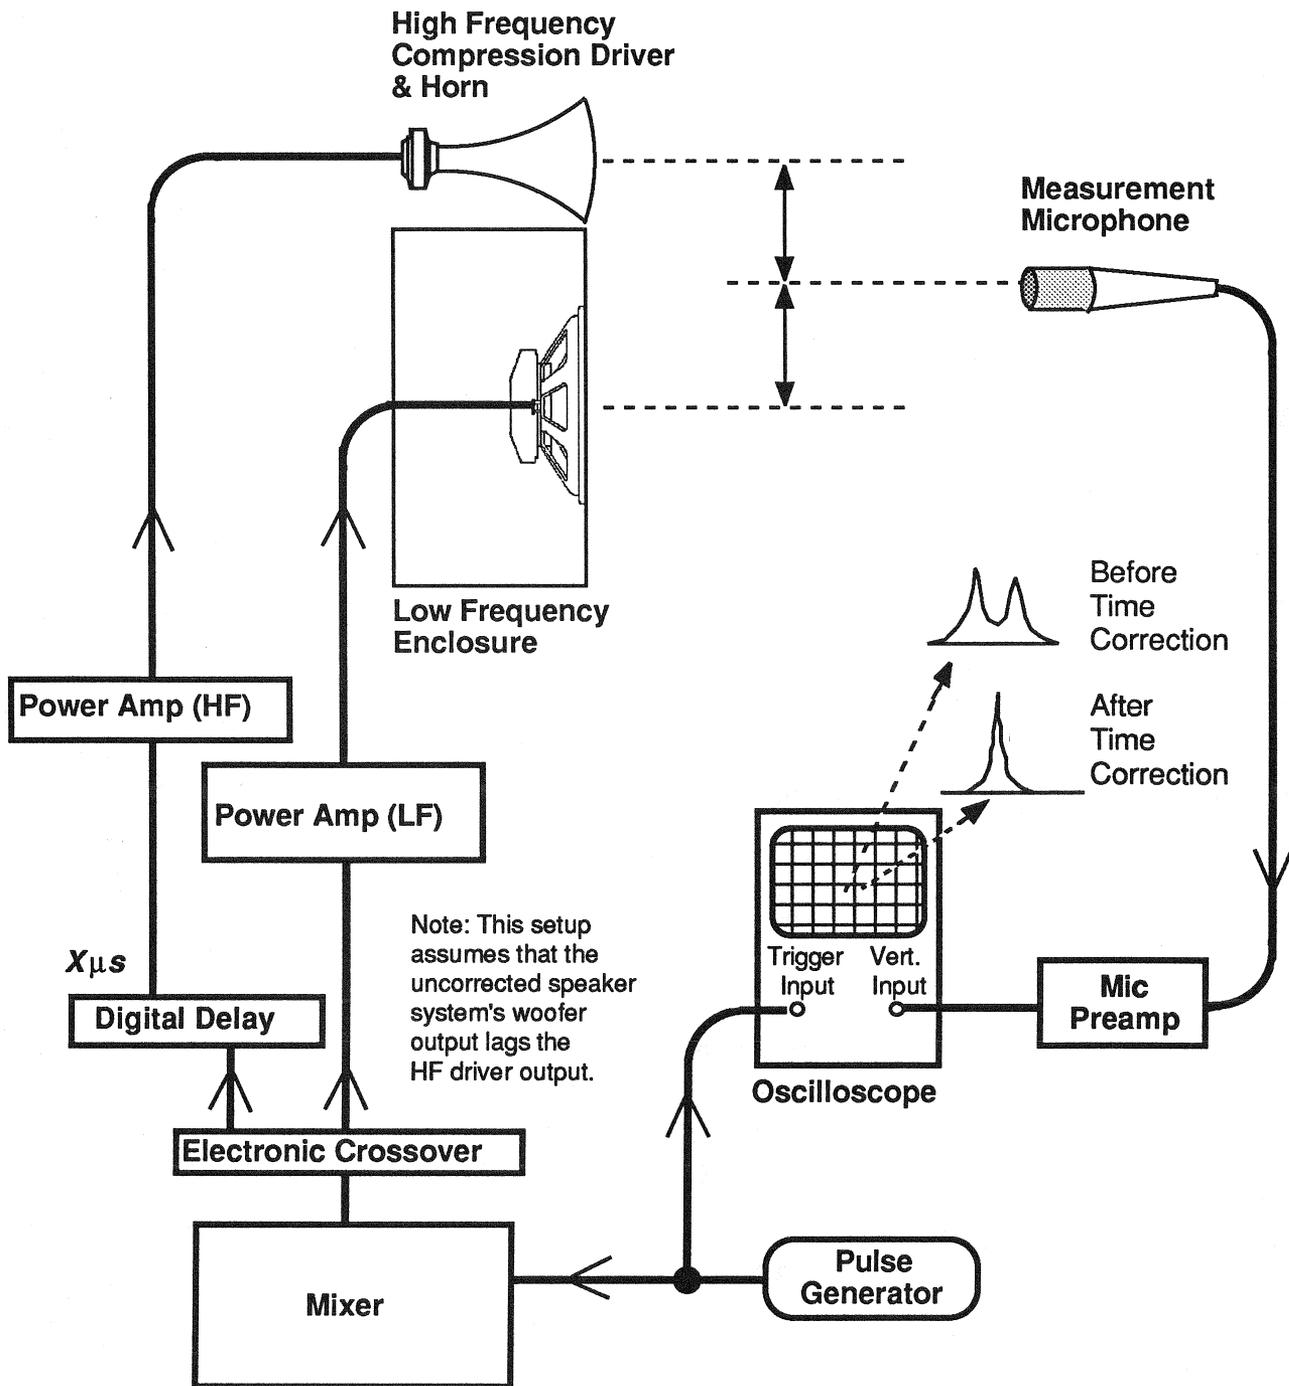

Figure 3. Use of Digital Audio Delay For Time Correction of Drivers In A 2-Way Loudspeaker System With A Typical Electronic Crossover Network
For the actual alignment technique, refer to Figure 3. Before you attempt to make any time correction, you should do several things. First, set up the system as best you can without any time delay. Just get the sound as good as you can by setting up the relative level for the two sections and making any necessary crossover, graphic or parametric equalizer adjustments. Then measure the speaker system and determine from which of the drivers the sound arrives first; this is the driver which will have to be delayed.⁴ You can make this determination by first pulsing the system with both drivers active and observing the analyzer. Then shut off the signal to one of the drivers, pulse the system again, and watch the analyzer to see which spike disappeared. Now install the time delay (or switch it out of bypass mode) ahead of the amplifier which powers that 'first arriving' driver.
4. If you can measure the actual time offset at this point, be sure it is at least 390 microseconds. This is equal to the internal propagation delay of the JBL/UREI 7922 (caused by group delay in the A/D and D/A converters, and propagation delay in the digital circuitry), and corresponds to about a 5-1/4-inch offset. If there is less than 5-1/4-inches equivalent offset, then you won't be able to obtain a correction using the setup shown in Figure 3. Instead, try to move the 'later' arriving driver back just enough that its sound does arrive more than 150 μ s after the other driver, or you may need to use the special setup illustrated by Figure 4.
With the setup in Figure 3 (and Figure 4) we show an oscilloscope as the measurement tool. While we recommended against the scope in the rear fill speaker setup, this tool can be used here because the proximity to the sound source means that a sharply defined wavefront may be present. You can still substitute a TEF or FFT type analyzer if you have one. Assuming that the drivers for the two bands on either side of the crossover point are mounted in a single enclosure, you can place the measurement microphone about 4 feet in front of the enclosure, centered between the drivers. If you're dealing with an array of
dial in the precise delay, as in the setup in Figure 3. The difference, however, is that inter-driver time differences down to a 1/8 inch minimum can be corrected for in Figure 4, instead of the 2-inch minimum difference available with the setup illustrated in Figure 3.